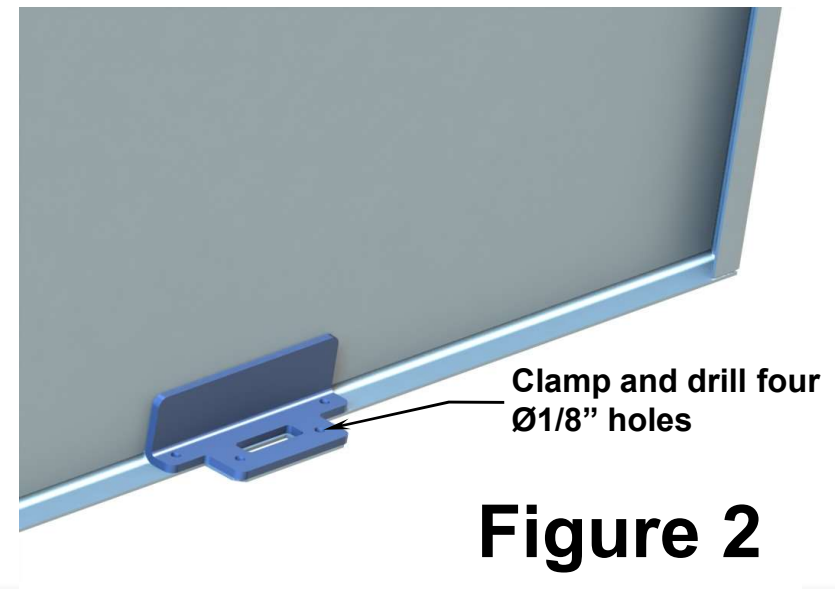

Figure 2
2. Drill four $\text{\O}1/8$ holes using the Support Bracket(C) as a template. (Fig 2). It may be necessary to clamp Support Bracket(C) to door panel during drilling to prevent slipping.